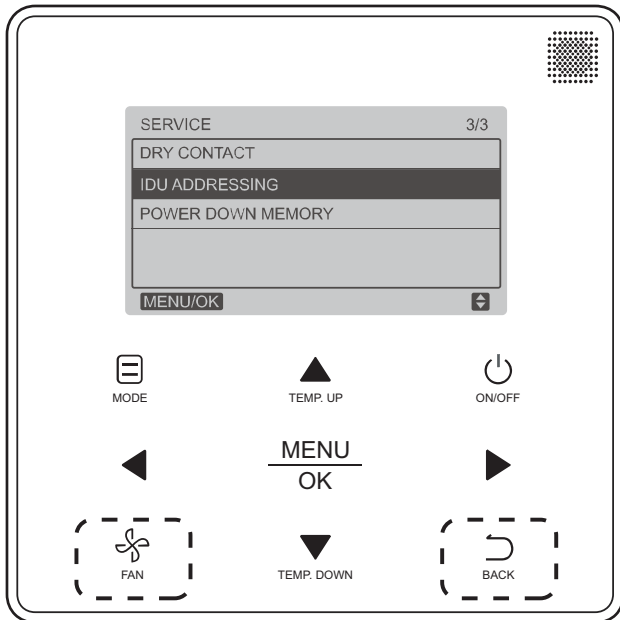

Fig. 38 — Programmable Controller (40VM900003) IDU Addressing Menu
1. Press **FAN** and **BACK** simultaneously for 5 seconds to access parameter settings as shown in Fig. 38.